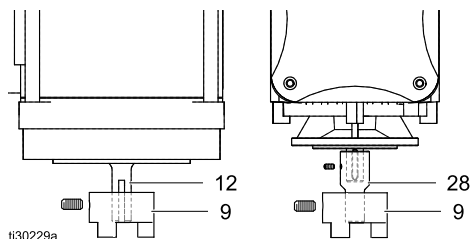

Figure 4 Coupling on Motor Shaft
- For UL motors: Place coupling (9) flush to the bottom of the motor shaft. See Figure 4, left side. Securely tighten set screw in coupling.
For ATEX motors: Place coupling (9) flush to the bottom of the adapter (28). See Figure 4, right side.